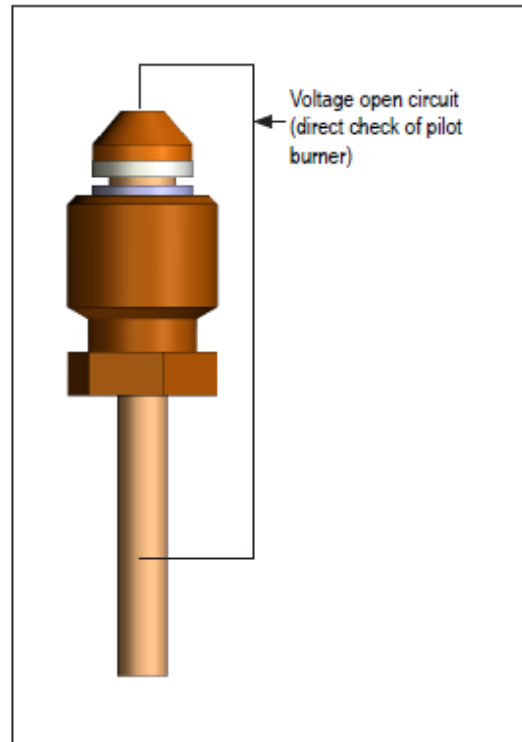

Figure 3
- Check the voltage the thermocouple is generating (see figure 3). Disconnect the thermocouple from the interrupter block and place one probe at the end of the thermocouple contact area and the other probe on the body of the thermocouple. Begin ignition sequence. At the point the thermocouple takes over and the motor on the gas valve turns and opens, take a voltage reading. With this reading you can determine if it is a pilot/thermocouple issue or a short at the interrupter block.